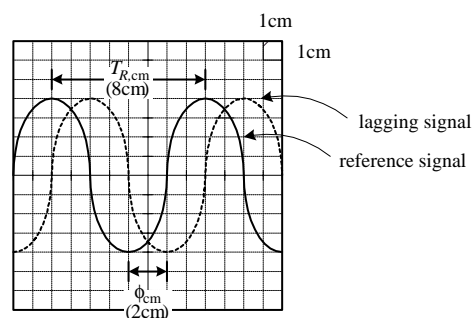

FIGURE 14.39
6. Determine the phase factor of the reference signal. If one period (360°) of a signal is 8 cm, then 1 cm equals one-eighth of 360° , or 45° . The 45° value represents the phase factor (see Fig. 14.39).
7. Measure the horizontal distance between corresponding points (e.g., corresponding peaks or troughs) of the two waveforms. Multiply this measured distance by the phase factor to get the phase difference (see Fig. 14.39). For example, if the measured difference between the two signals is 2 cm, then the phase difference is $2 \times 45^\circ$, or 90° .